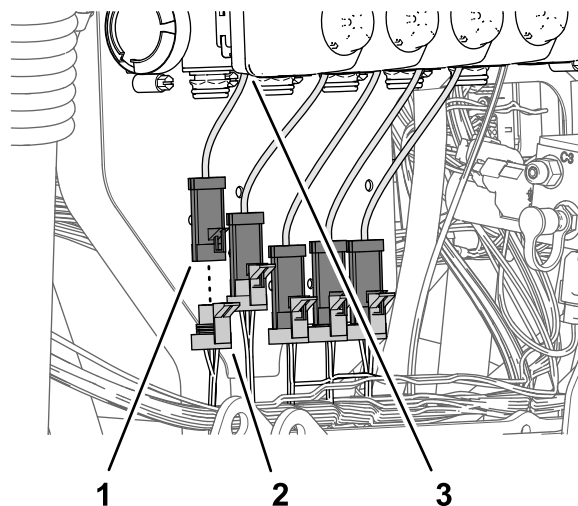

Figure 115
2. Connect 3-socket connector (Figure 115) of the 89 cm (35 inch) kit wire-harness branch labeled NOZZLE VALVE 1) into the 3-pin connector of the left most valve actuator (position 1).
3. Connect 3-socket connector (Figure 115) of the 89 cm (35 inch) kit wire-harness branch labeled NOZZLE VALVE 2) into the 3-pin connector of the valve actuator (position 2).
4. Connect the remaining 3-socket connectors of the 89 cm (35 inch) kit wire-harness branch into the 3-pin connector of the valve actuators (Figure 115).